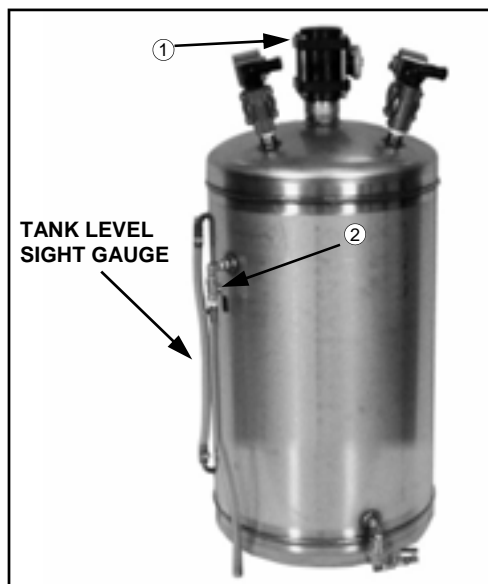

FIG 5.45
Relieve pressure from the tank by opening the ¼" ball valve on the side of the foam tank (fig. 5.45, item 2). Close the ball valve after pressure is relieved. Open the top 2" ball valve (fig. 5.45, item 1). Add water to the tank, leaving enough room for the foam concentrate. Next add the foam concentrate according to the label on the container. After filling is complete, close the 2" ball valve on top of the tank. Start the sprayer's engine and adjust the air pressure accordingly.